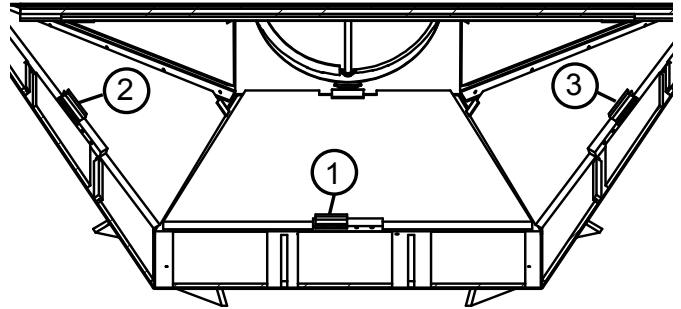

FIG.1
- A.** Remove screws from brackets and slide rear panel out of smoke chamber. Repeat for both side panels. **(FIG.1)**
F. Slide side panels then rear panel into smoke chamber and install brackets. **(FIG.1)**